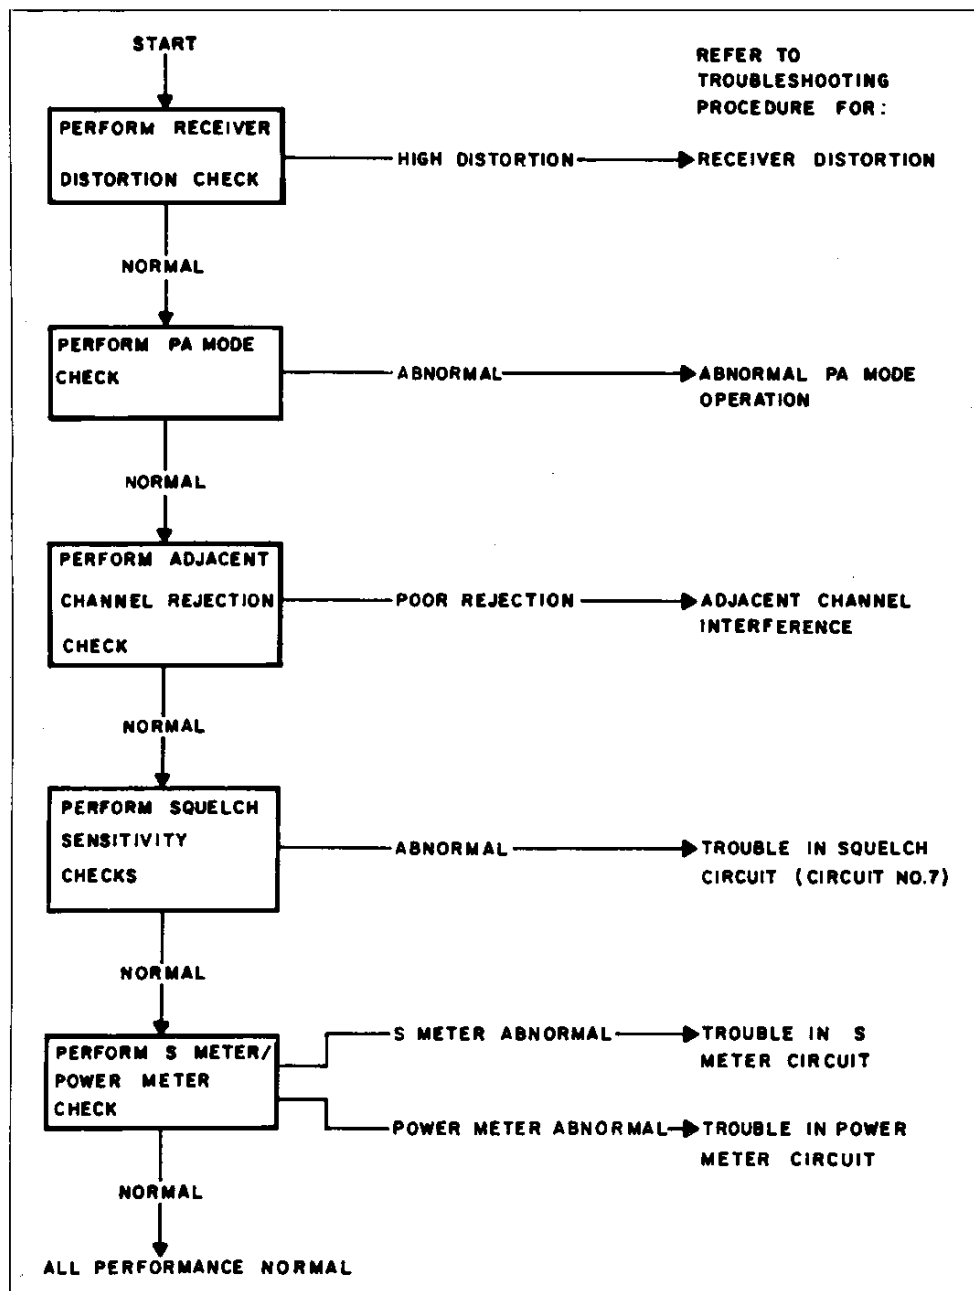

Fig. 26. Final Diagnostic Check, AM and AM/SSB Transceivers
10. Perform as many steps of Fig. 26 as is required to be directed to a troubleshooting procedure. Use the referenced troubleshooting procedure to isolate and correct any malfunction.
11. If any troubleshooting and repair are required in step 10, recheck transceiver performance by repeating the steps of Fig. 26, starting at the beginning. Repeat the steps as many times as required to successfully complete the checks.